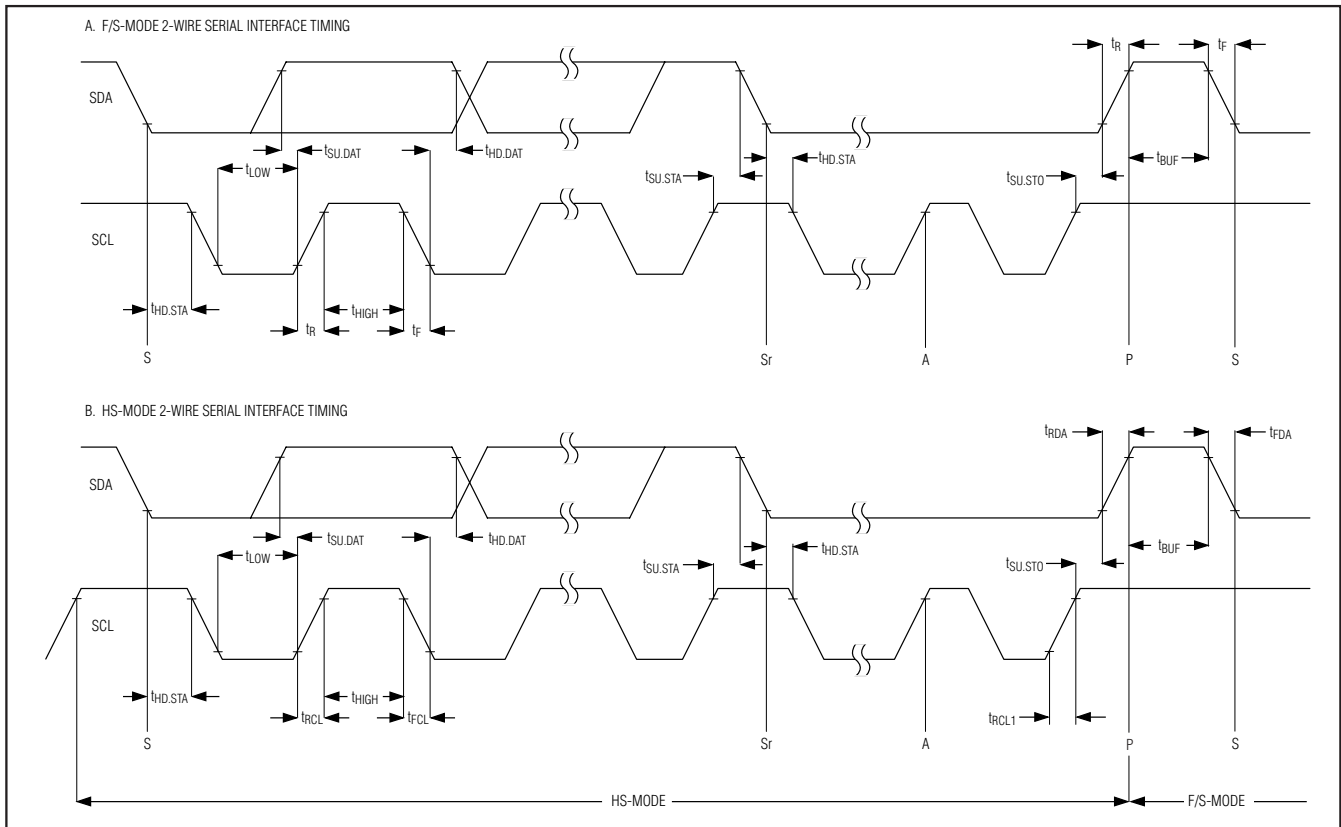

Figure 1. 2-Wire Serial Interface Timing
TIMING CHARACTERISTICS (Figure 1)
TIMING CHARACTERISTICS (Figure 1) (continued)
- Note 10:** A master device must provide a data hold time for SDA (referred to V_{IL} of SCL) in order to bridge the undefined region of SCL's falling edge (see Figure 1).
up to 22.2ksps. The MAX1136–MAX1139 must operate in high-speed mode (HS-mode) to achieve conversion rates up to 94.4ksps. Figure 1 shows the bus timing for the MAX1136–MAX1139’s 2-wire interface.